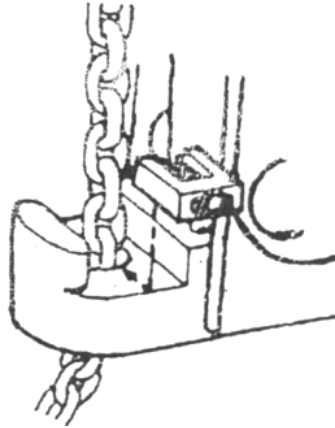

Figure 3-3.
3. Secure the chain by sliding the Link-Lok into the chain around one of the links and between two adjoining links. See Figure 3-3. If the slack has been taken out of the chain properly, the operator should not have to remove and re-install the LinkLok™ during the post pulling.